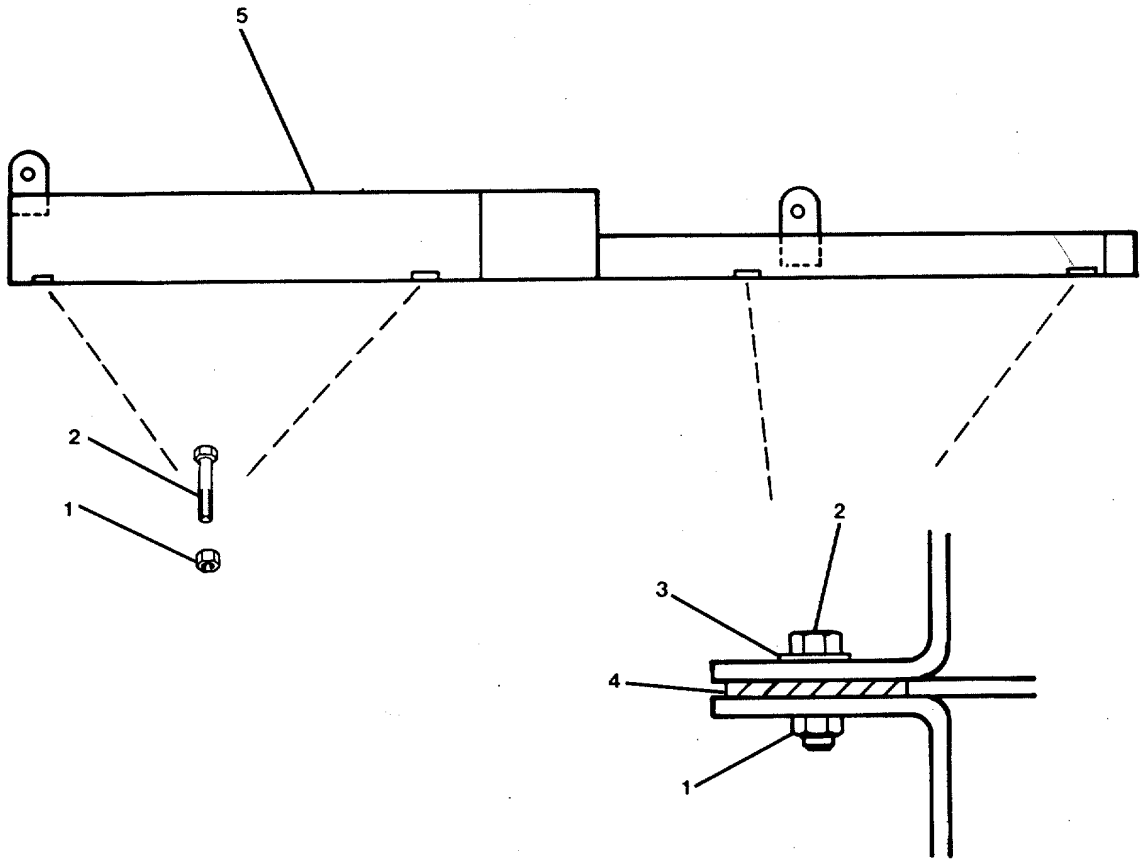

FIGURE 3-101. Bowthruster Sub-Base Assembly.
- a. Remove eight bolts (2, FIGURE 3-101), washer (3), and nuts (1) from sub-base (5).
- b. Remove sub-base (5).
- a. Install sub-base (5) over isolation pads (4).
- b. Install eight bolts (2), washers (3), and nuts (1). Tighten bolts to 35 ft-lb torque.